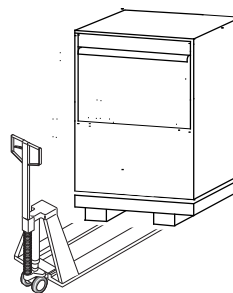

Fig.2
- 2- Lift the appliance using a lift truck. (Fig. 2)